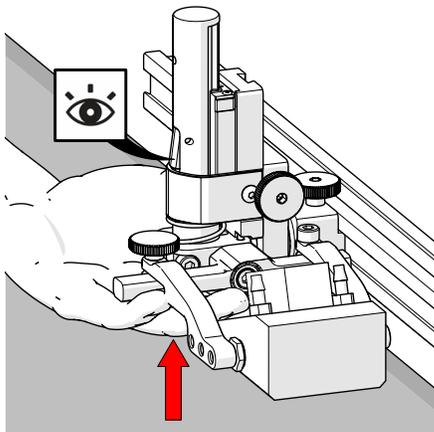
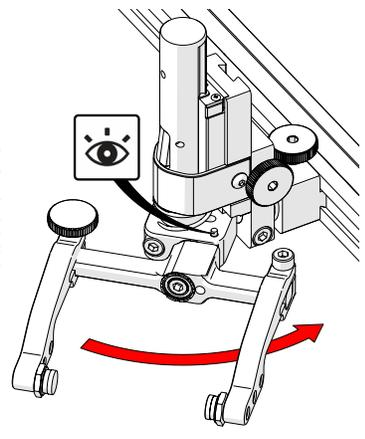

Fig. 80 - Latch probe holder
Fig. 86 - Stop post locates 90°
1. Ensure the probe holder is in the latched, upper position. Lift the probe holder until the latch is fully exposed and snaps out to lock (Fig. 80).
1. Ensure the probe holder is in the latched, upper position (Fig. 80).
To return the transverse adjustment to neutral (90°). The probe holder must be in the latched, upper position (Fig. 80). Rotate the yoke until the stop post contacts the base of the probe holder (Fig. 86). Then tighten the transverse adjustment screw.